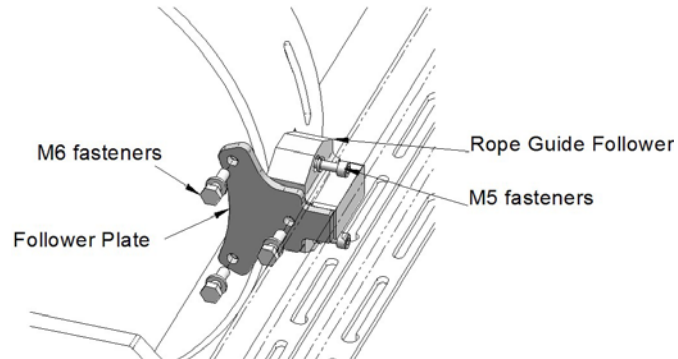

Figure 73 – Fitting Rope Guide Plate – Galvanising/Aggressive Environments
- Fit the rope guide plate to the rope guide and the rope guide follower using 3 off M6 setscrews. Tighten the M6 setscrews to 8Nm. (see Figure 73).